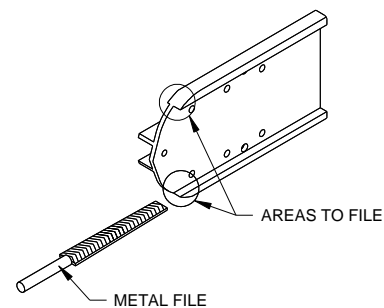

FIG. 2
- Using a metal file remove any burrs that may be on the end of the ramp rail as shown in Fig. 2; burrs can cause interference and not allow the apron to install smoothly.